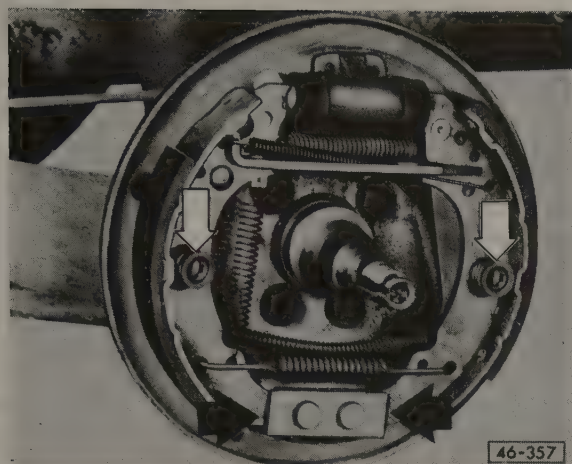

Fig. 6-3. Rear brake assembly showing brake shoe retaining pins and spring retainers (light arrows), and lower brake shoe support (dark arrows).
4. While supporting the head of one shoe retaining pin from behind the backing plate, push the spring retainer in and rotate it 90° to remove it. See Fig. 6-3. Repeat the step for the other retainer.